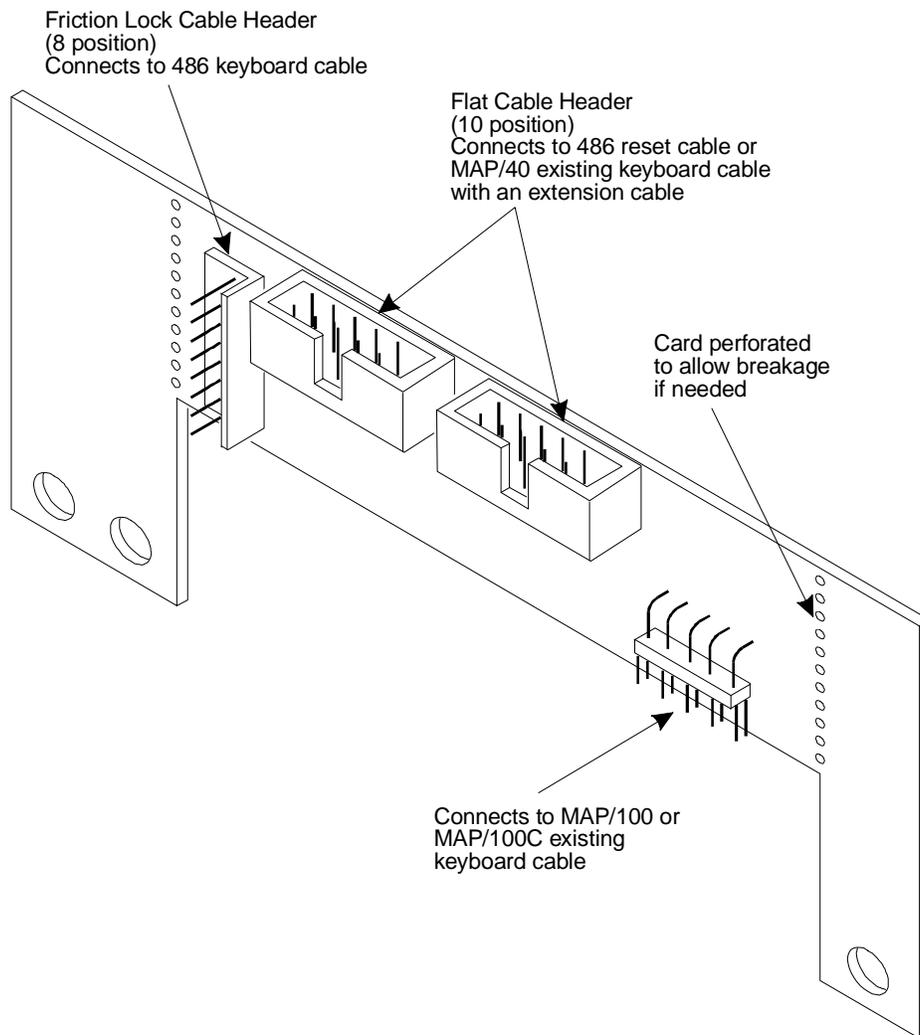
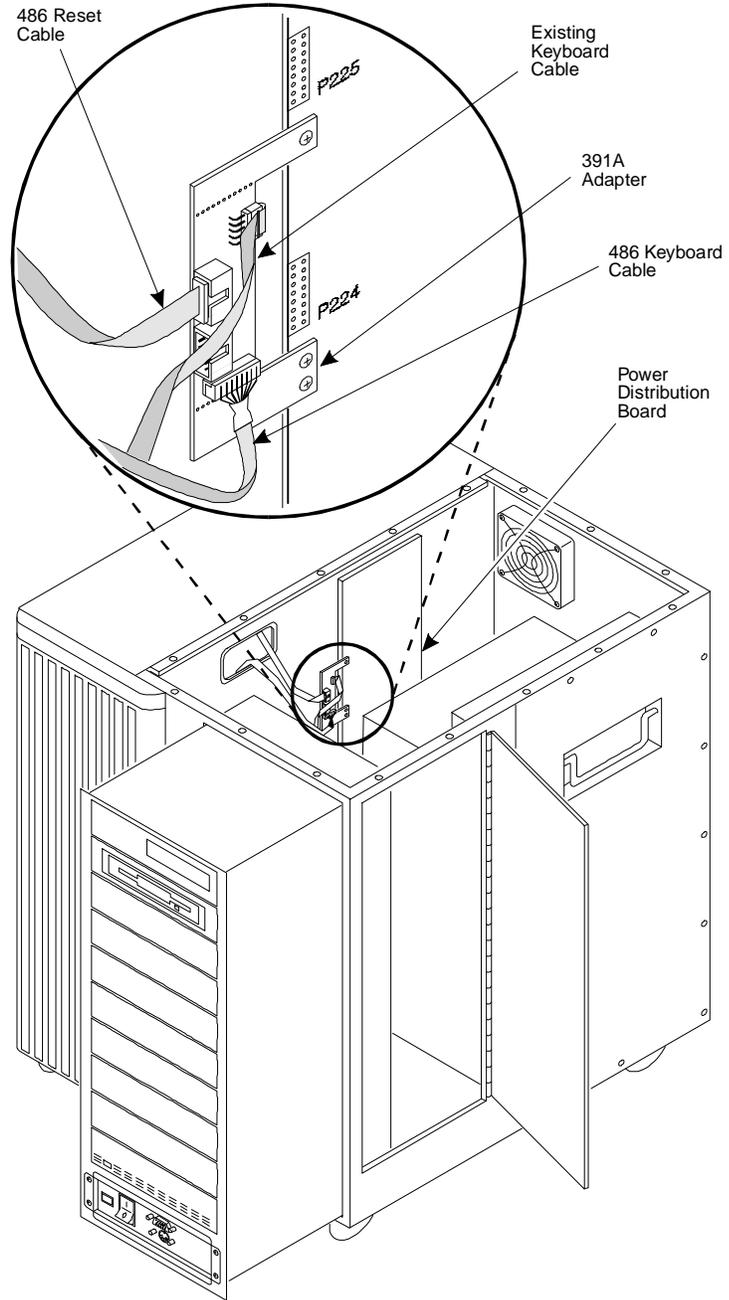

Figure 9-26. CPU/Remote Maintenance Circuit Card Keyboard Adapter
Figure 9-27. CPU/Remote Maintenance Circuit Card Keyboard Adapter Installed in the MAP/100 with Cabling
1. Locate the CPU/Remote Maintenance circuit card keyboard adapter (391A adapter) in the MAP/100. Ensure that the keyboard/reset and the Remote Maintenance circuit card reset cables are dressed through the portal into the card cage (see Figure 9-26 and Figure 9-27).